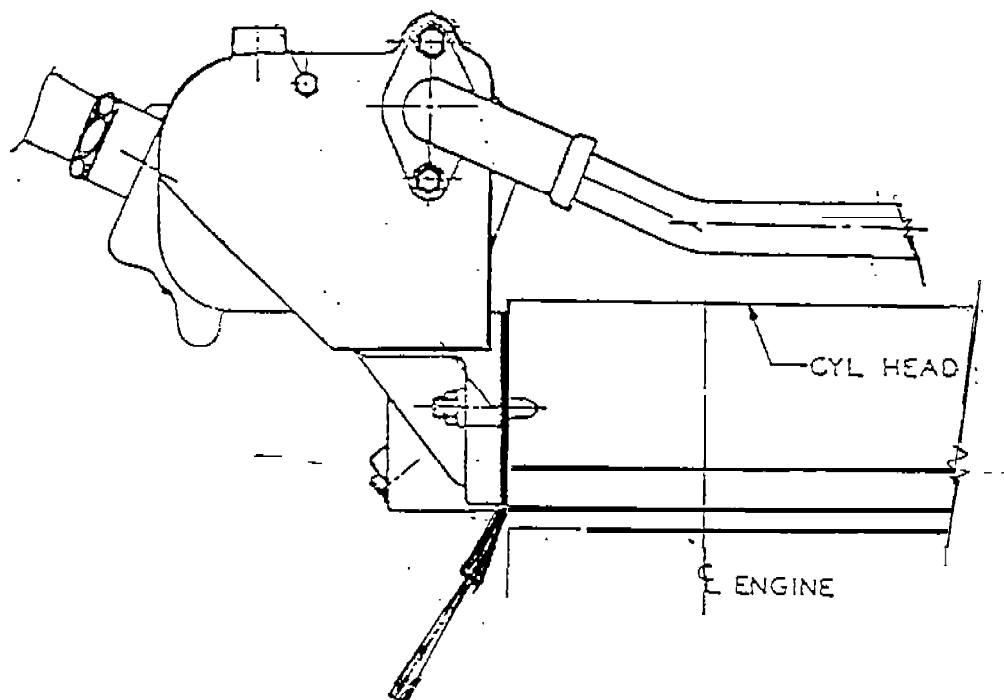

Figure 8. Gasket Between Exhaust Manifold and Engine
- (WEEKLY) 12. ( ) A steel gasket (2 pieces) is installed between the exhaust manifold and the engine head as shown in Figure 8.